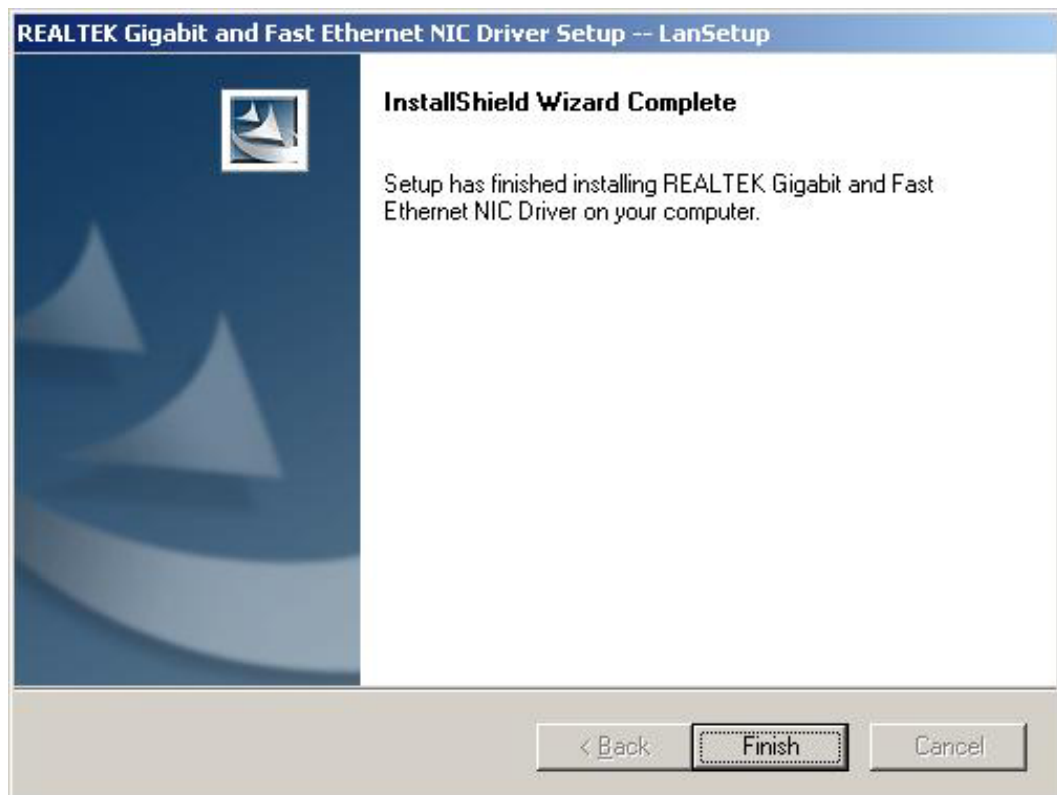

Figure 6-23: Installing Screen
- Step 9:** Once the installation is complete, the **InstallShield Wizard Complete** screen appears (**Figure 6-23**).